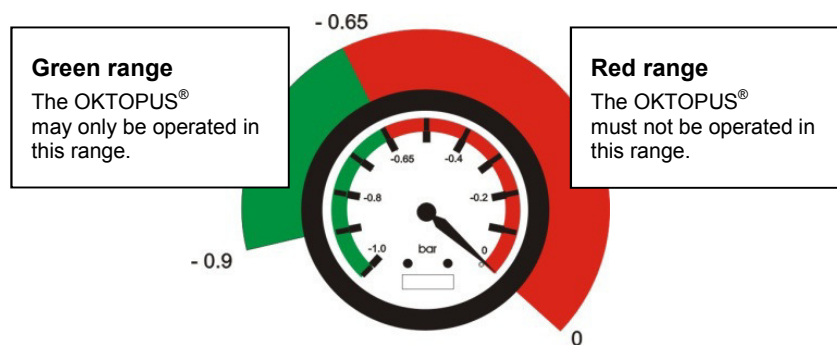

Fig. 5: Vacuum gauge
The OKTOPUS® GLASS-Jack GL-N 400/300 mounted to the crane is ready for use, when a sufficient vacuum level is reached in both vacuum tanks. The current vacuum level is constantly indicated on the vacuum gauges (figure 5).
- ⇒ You can lift the load only if the red warning light and the alarm buzzer have turned off, the vacuum gauges indicate that the working range has been reached (see figure 5) and you have ensured that nobody is in the danger area.